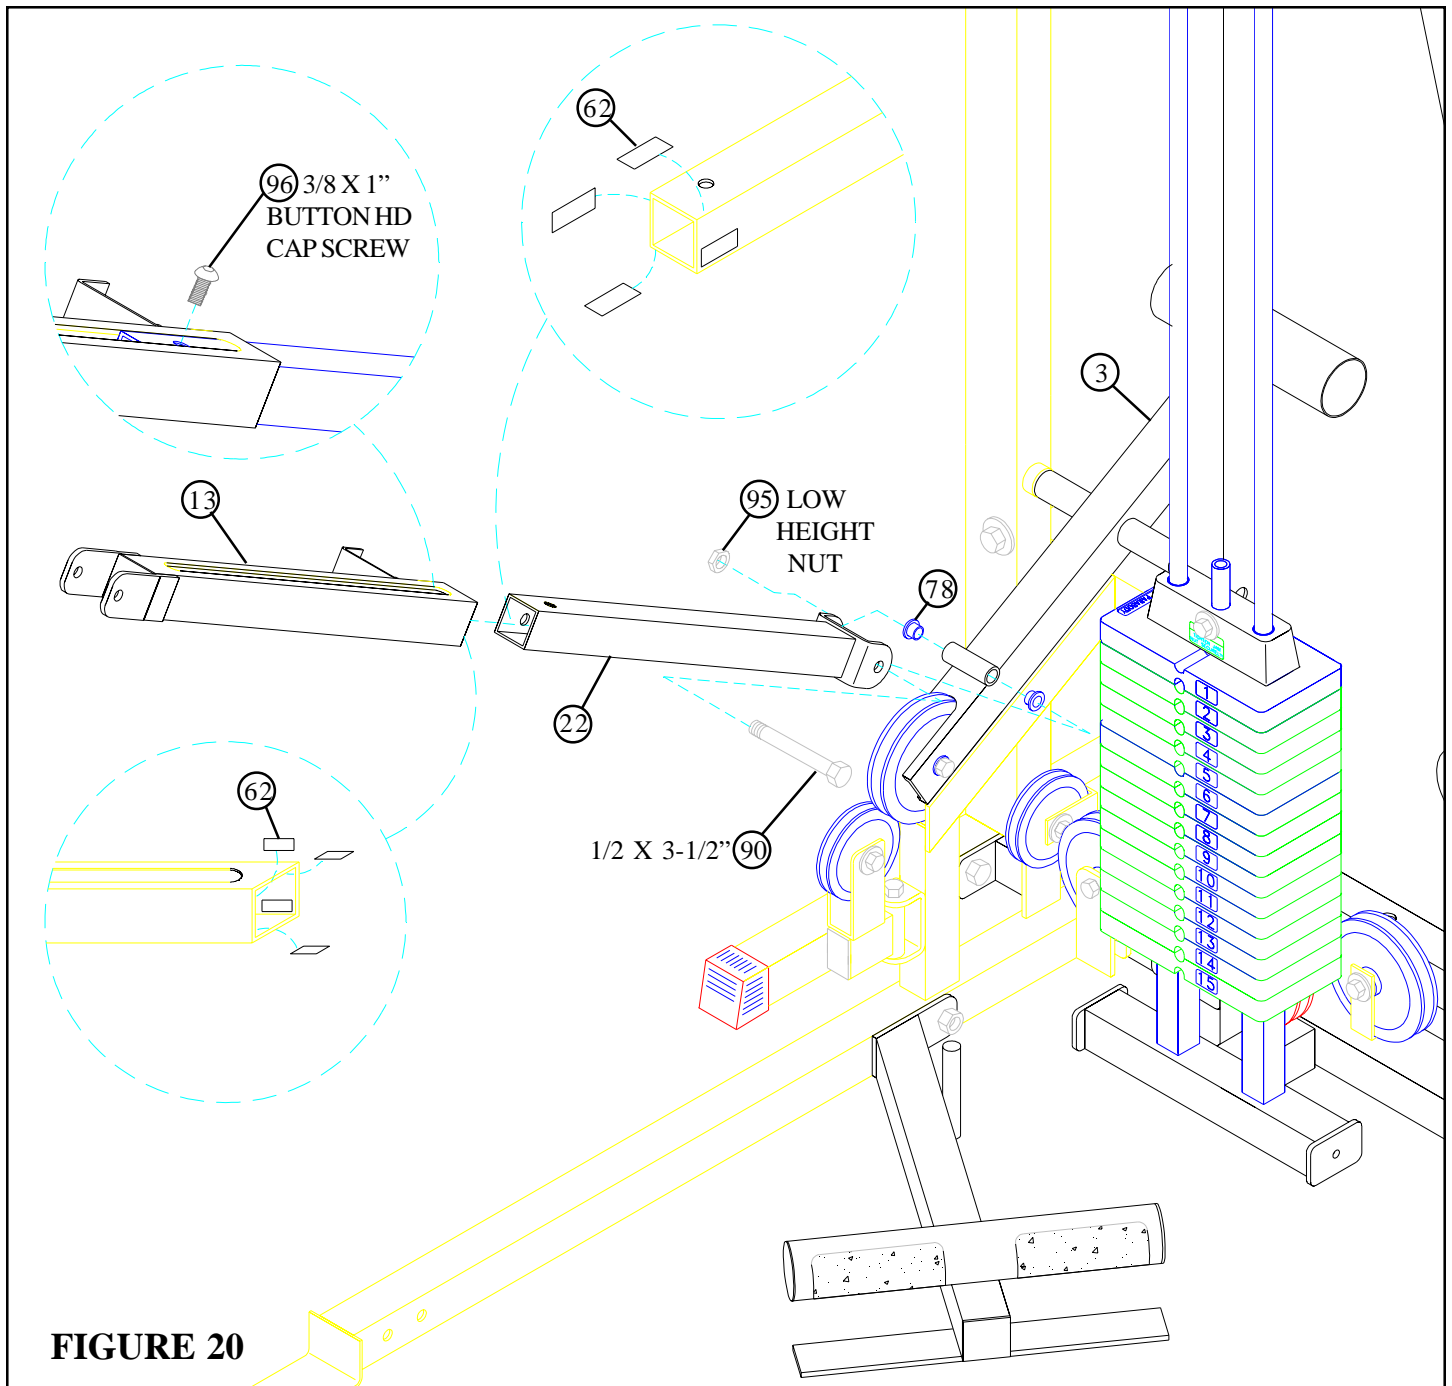

FIGURE 20
- Attach eight PARAGLIDE STRIPS (62) **INSIDE** the end of the RECEIVING TUBE (13) and four PARAGLIDE STRIPS (62) to the **OUTSIDE** of the PRESS ADJUSTMENT TUBE (22) using the following steps:
- Thoroughly clean all surfaces where PARAGLIDE STRIPS (62) are to be attached.
- Remove the PARAGLIDE STRIPS (62) from the paper backing and firmly apply them to surfaces. (**NOTE: Orientate the strips so they will slide by each other.**)
- CAREFULLY slide the PRESS ADJUSTMENT TUBE (22) into the RECEIVING TUBE (13). (**NOTE: Make sure the spring pin barrel on the RECEIVING TUBE (13) is on the same side as the holes in the PRESS ADJUSTMENT TUBE (22).**)
- Thread one 3/8 X 1" BUTTON HEAD CAP SCREW (96) through the slot in the RECEIVING TUBE (13) and into the ADJUSTMENT TUBE (22)
- Insert two 1/2" FLANGE BEARINGS (78) into the COUNTER LEVER (3) as shown in FIGURE 20.
- Assemble the PRESS ADJUSTMENT TUBE (22) to the COUNTER LEVER (3) using one 1/2 X 3-1/2" BOLT (90) and one 1/2" LOW HEIGHT LOCK NUT (95). (**NOTE: Tighten the connection enough to remove play, yet allowing the PRESS ADJUSTMENT TUBE (22) to rotate freely.**)